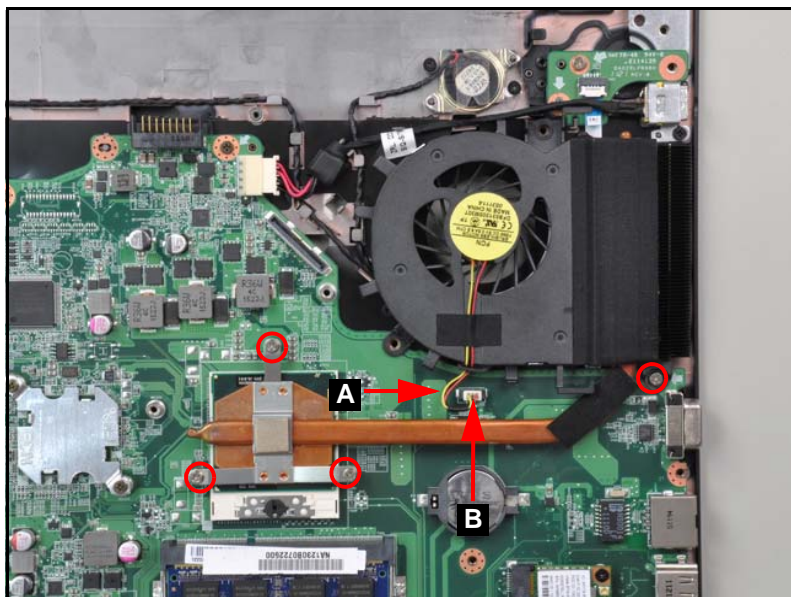

Figure 3-25. Thermal Module
1. Disconnect the thermal fan cable (A) from the mainboard connector (B) (Figure 3-25).
2. Remove four (4) screws from the thermal module (Figure 3-25).
3. Install and secure four (4) non-captive screws to mainboard. (Figure 3-25).
4. Connect thermal module cable (A) to mainboard connector (B). (Figure 3-25).